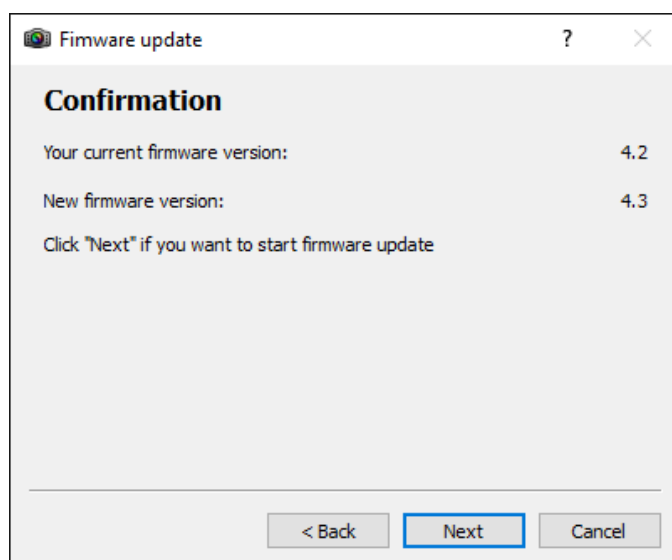

Figure 30 – Firmware update confirmation window
3. The following window displays both current and new firmware, as shown in Figure 30